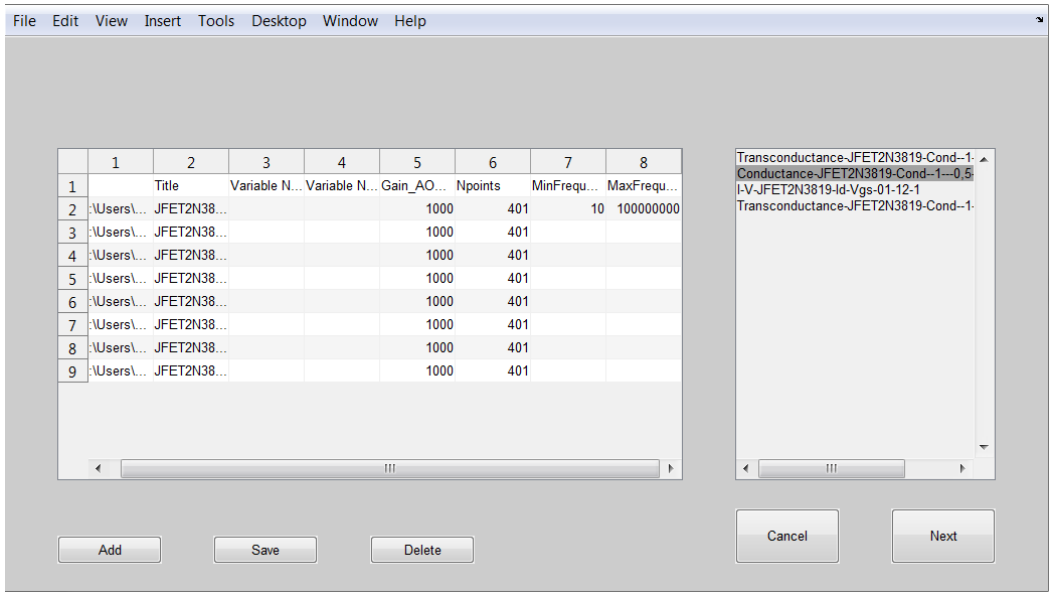

Figure 3
- 5- Press Next and the function will be added to the list shown in the right side of Figure 3
- 6- If needed, you can add multiple different functions, as it is shown in Figure 3. For this repeat steps 1 till 5.